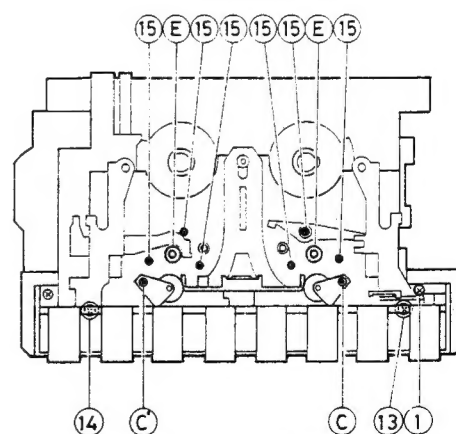

Fig. 3-7 Top view
- 1) Remove two screws ⑫ on the rear panel.
- 2) Remove a screw ⑬ securing the pause button lever, and remove the pause button lever's stud from the lever. After the above procedure, press the button lever to remove it. (See Fig. 3-7.)
- 3) Remove a screw ⑭ securing the reverse mode button lever and remove a stud from the button lever. Then press the lever to remove it. (See Fig. 3-7.)
- 4) Disengage springs at seven points ⑥, ⑦, ⑧, ⑨, ⑩, ⑪, and ⑫ shown in the figure.
- 5) Remove six screws ⑮ securing the capstan sleeve. (See Fig. 3-7.)